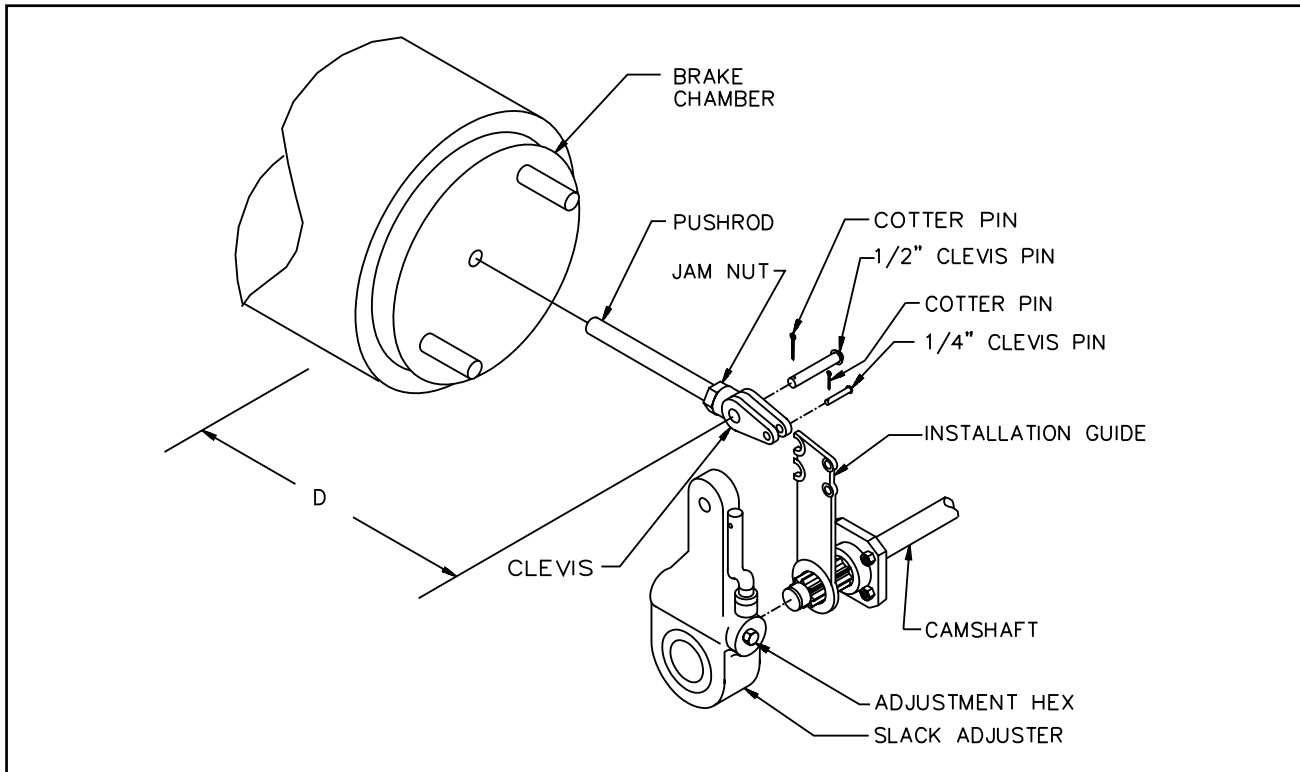

Figure 4-13 Slack Adjuster
4. Disconnect the slack adjuster from the connecting rod by removing the clevis pin (See Figure 4-13).
3. Remount the brake unit on the axle brackets and reconnect the air service hoses and the slack adjuster connecting rod (See Figure 4-13).
a. Operational Check (See Figure 4-13)
b. Replacing Slack Adjuster (See Figure 4-13)
6. Measure the distance (D) from air chamber to 1/2" pin (**See Figure 4-13**). Apply brakes with 100-105 psi air pressure and remeasure distance (D) to 1/2" pins (**See Figure 4-13**).